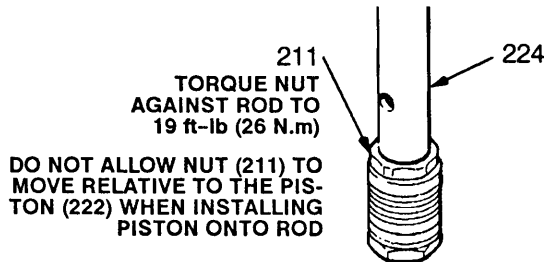

Fig 19
- Use a wrench to **CAREFULLY** tighten the nut (211) against the piston rod to 19 ft-lb (26 N.m). See Fig 19.